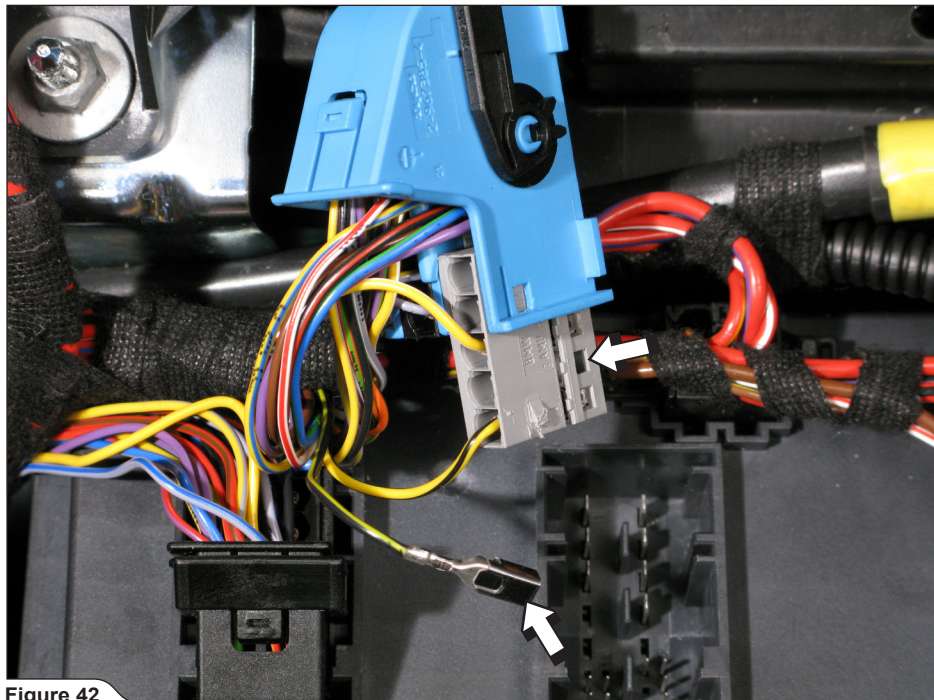

Figure 42
6. Remove the marked connector pin (black wire with yellow stripe) (Figure 42).